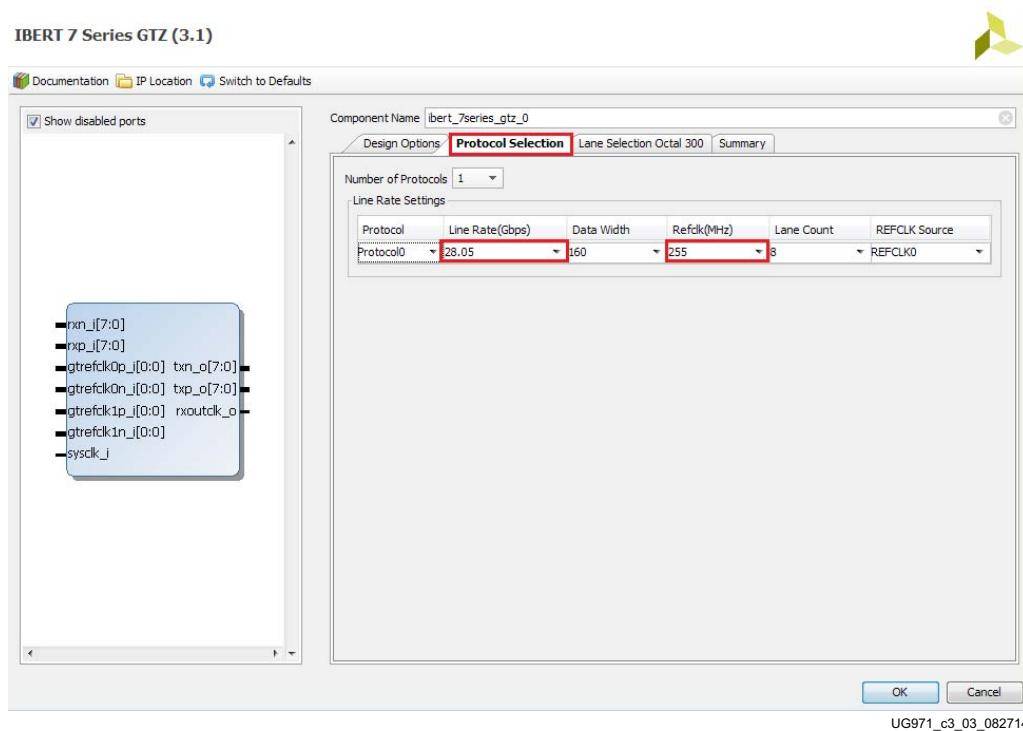

Figure 3-3: Customize IP - Protocol Selection
3. In the Protocol Selection tab, set the Line Rate to **28.05 Gbps**, and the reference frequency to **255 MHz** (Figure 3-3).